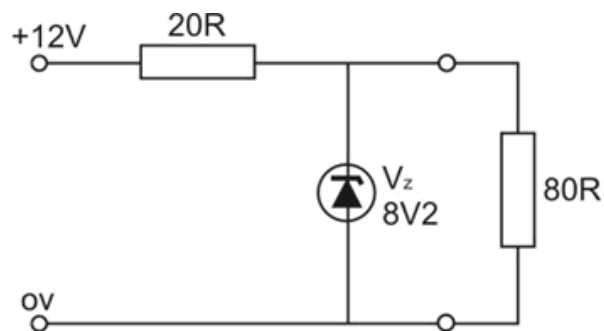

Figure 10. Shunt zener regulator
2. The zener regulator shown in Figure 10 has a fault. From the following measurements determine the likely fault. Explain your answer.